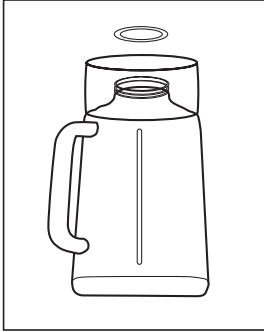

FIGURE 1
1. Turn jar upside down so the small opening is at the top. (Figure 1)
2. Place sealing ring over jar opening. (Figure 1)